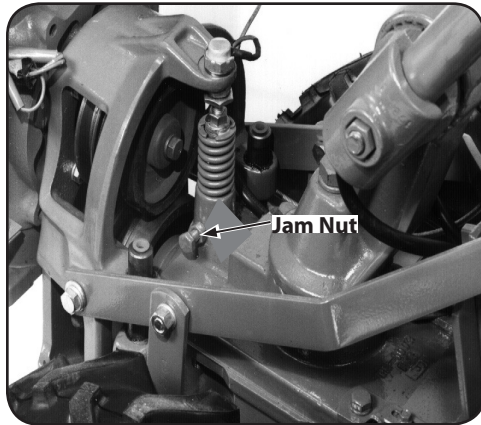

Figure 5-2
- The jam nut is located on the left side of the neutral plunger. If loose, immobilize bolt head with one wrench and use another wrench to tighten the nut. See Figure 5-2.